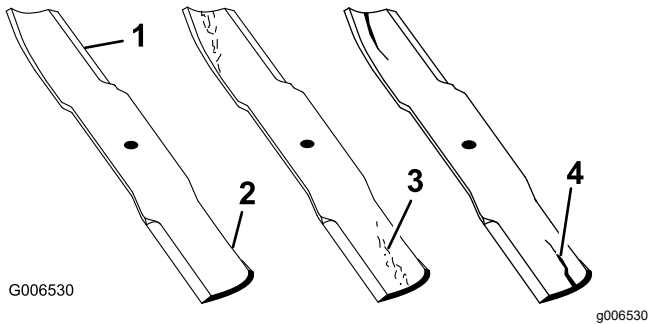

Figure 29
2. Examine the cutting ends of the blade carefully, especially where the flat and curved parts of the blade meet (Figure 29). Since sand and abrasive material can wear away the metal that connects the flat and curved parts of the blade, check the blade before using the machine. If you see wear (Figure 29), replace the blade; refer to Removing and Installing the Blade\(s\) (page 19).
If the blade is allowed to wear, a slot will form between the sail and flat part of the blade (Figure 29). Eventually, a piece of the blade may break off and be thrown from under the housing, possibly resulting in serious injury to yourself or bystanders.